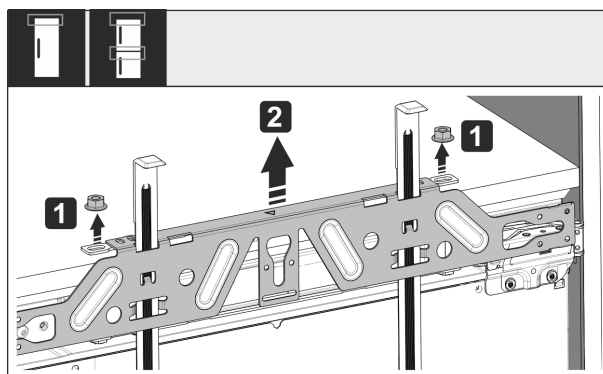

Fig. 50
- ▶ Loosen locknuts Fig. 50 (1).
- ▶ Remove crosspiece Fig. 50 (2).